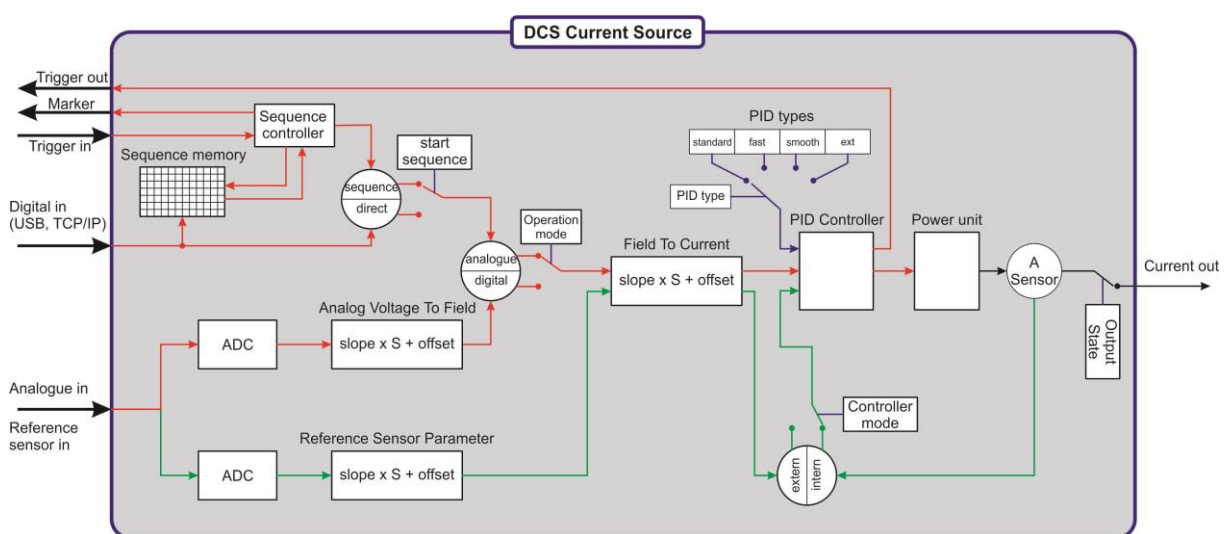
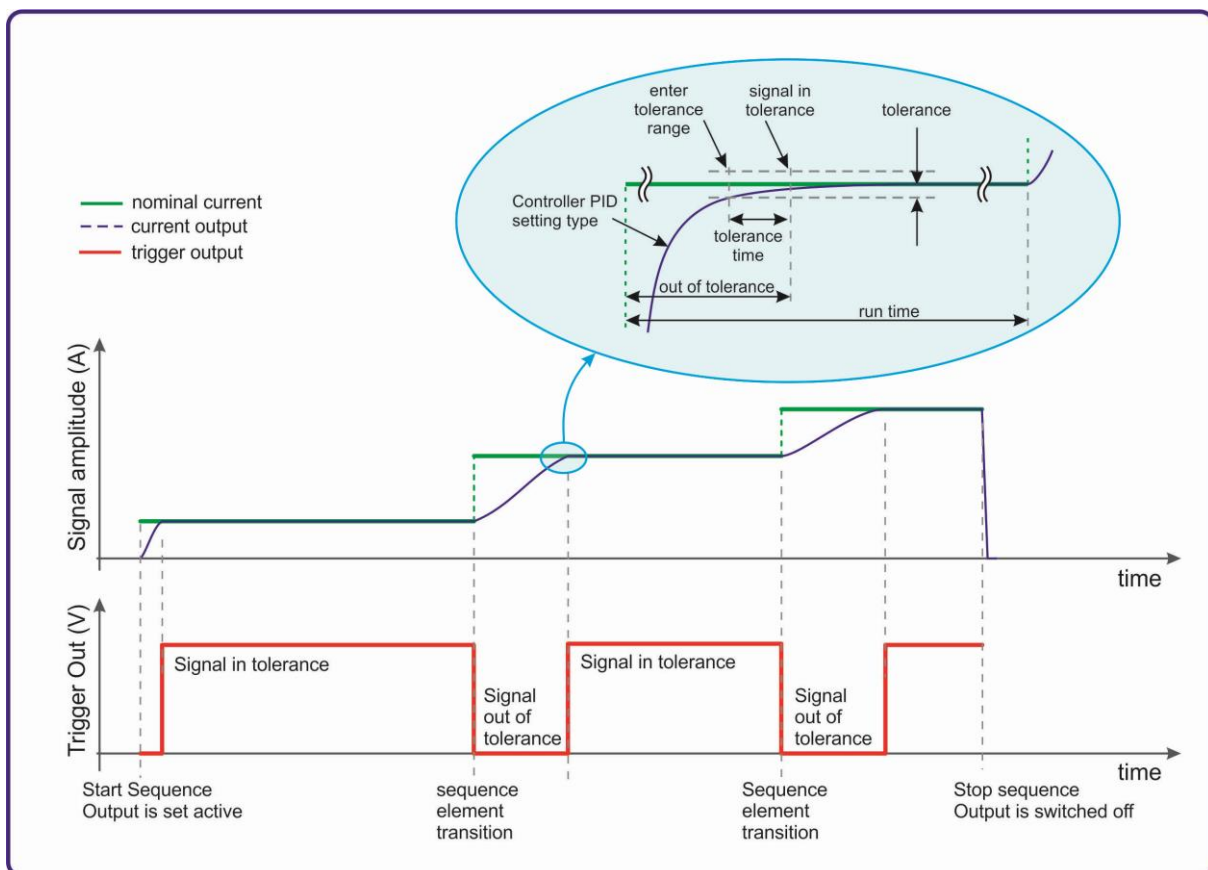

Fig. 1. Functional overview of the DCS-6k current source.
Fig. 5. Accuracy definition at the trigger output.
Fig. 1 shows a functional overview of the complete DCS-6k digital current source. The system generates currents with the highest level of accuracy. The operation principle is as follows and shown in Fig. 1 .
- 1) **Input:** The nominal value can be applied as analogue or digital value (“Analogue in” / “Digital in” on the left in Fig. 1), where the analogue value can be re-normalised with an offset and scale to fit the physical entity, see §4.2. The nominal value can be applied in any arbitrary units (a.u.) see also step 4).
A typical output current after nominal value change is shown in Fig. 5. First the output current is outside the tolerance range and the output trigger = 0. After a remain in the tolerance range for a period of “tolerance time”, the output trigger = 1, indicating that the accuracy is reached.
In Fig. 1 and Fig. 5 the principle of the internal and external feedback sensors is schematically shown. The feedback sensor is used as input to the PID controller to set the output current. The internal feedback sensor consists of a current sensor at the current source output. This sensor is default used by the PID controller.